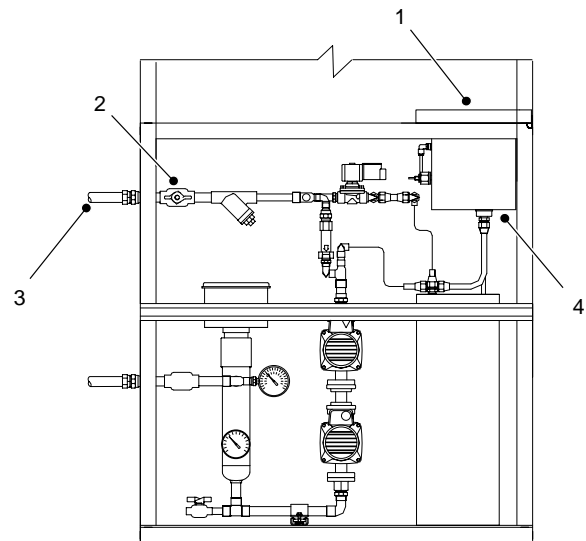

Figure 8 Filling the Water Reservoir
7. See Figure 8. If necessary, purge the air and prime the pumps:
- b. Close the From Process return line valve (2). Disconnect the hose (3) and hold it in the reservoir (4).
- d. Connect the hose (3). Open the From Process return line valve (2).
1. See Figure 8. Remove the cover (1) on the reservoir.
3. Install the cover (1) onto the reservoir.